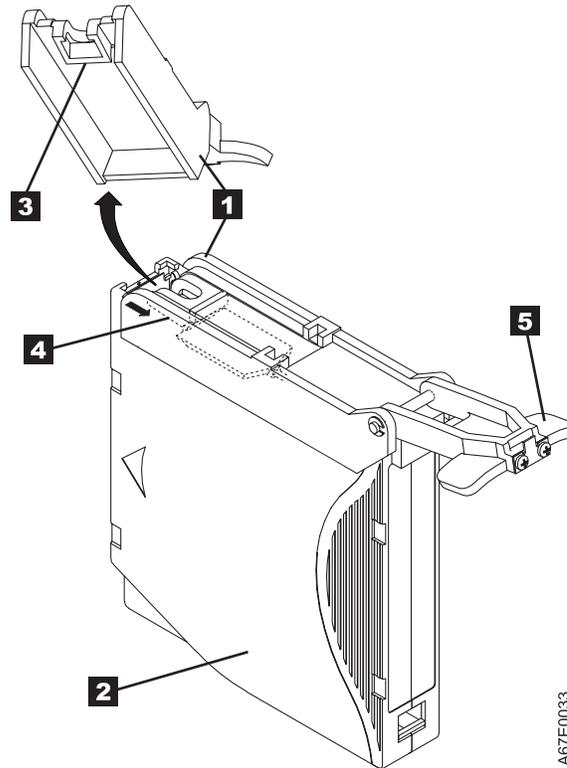

Figure 12. Attaching the leader pin attach tool to the cartridge. To hold the cartridge door open, hook the tool into the door and pull the tool back.
1. Attach the leader pin attach tool (**1** in Figure 12) to the cartridge (**2**) so that the tool's hook (**3**) latches into the cartridge's door (**4**). Pull the tool back to hold the door open, then slide the tool onto the cartridge. Open the tool's pivot arm (**5**).